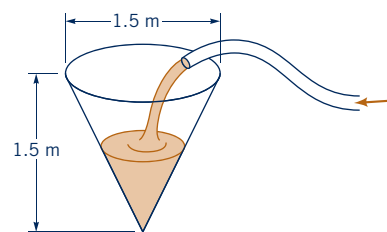

Figure P5.27
5.27 Estimate the time required to fill with water a cone-shaped container (see Fig. P5.27) 1.5 m high and 1.5 m across at the top if the filling rate is 76 L/min .